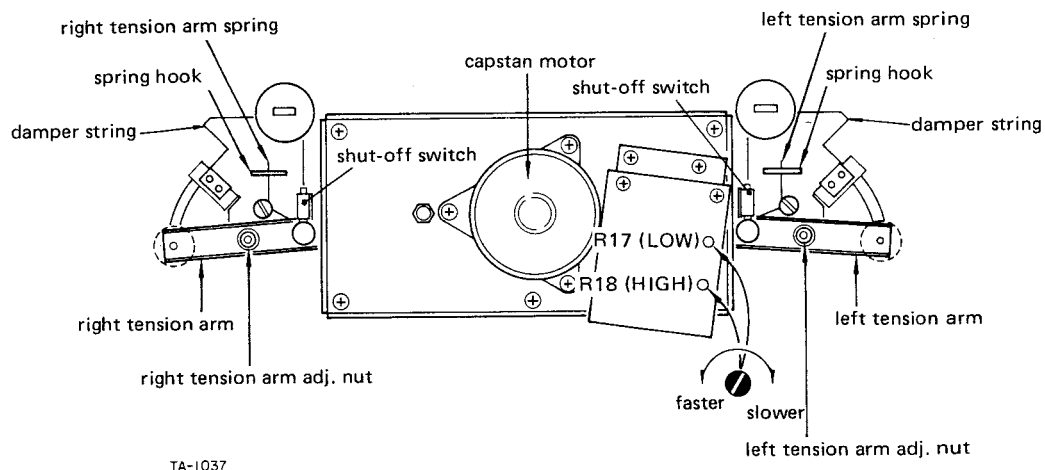

Fig. 2-8 Tension arm height, tension arm force, damper function, and tape speed
3. Stop left (right) guide roller's rotation by hand. Adjust by turning the left (right) tension arm adjusting nut (refer Fig. 2-8) so that the tape moves in the center of the guide roller.
5. Play the tape. Adjust R18 (see Fig. 2-8) for a reading of 3,000 Hz ± 5 Hz.